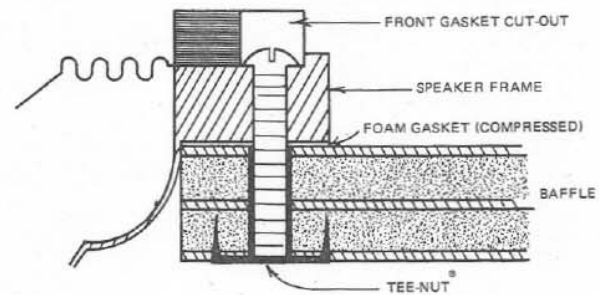

FIGURE 2 – Front Mounting Detail
***IMPORTANT!** When front mounting, the bolt head must fit down into the front gasket cutout. See Figure 2.*